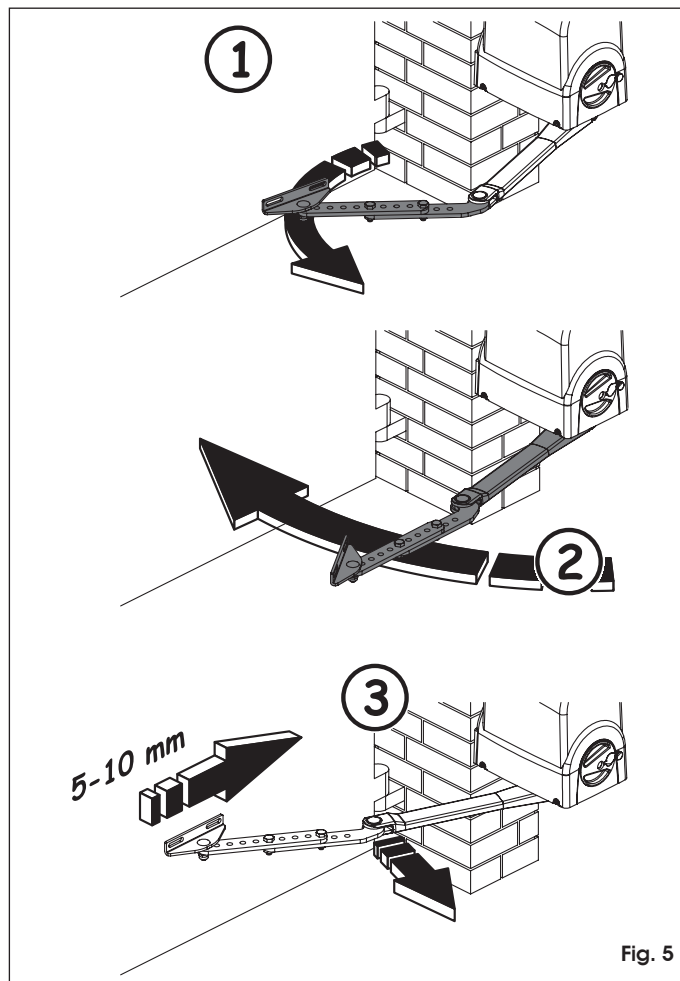

Fig. 5
7. Align the two arms, Fig.5 ref. ①.
8. Turn both arms until the front bracket is not in contact with the leaf, Fig.5 ref.②, in order to determine its securing position.
9. Draw back bracket by 5 – 10 mm, bending the arm, and mark the securing positions Fig.5 ref. ③.